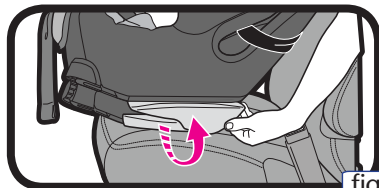

fig. 1
**Upright Position:** Flip feet out and lock into position for forward facing use (**fig. 1**).